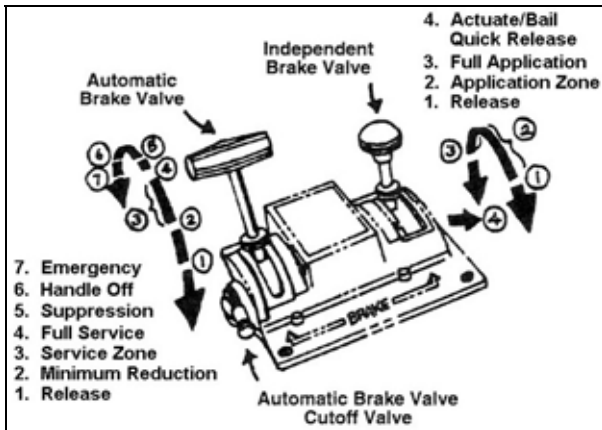

Figure 6-2. 30A-CDW Brake Valve Assembly
**Rule 6-5. 30A-CDW BRAKE VALVE.** This brake valve assembly (see Figure 6-2) is found on locomotive units having the *North American Cab* desk top control console. The automatic brake valve is located on the left side of the assembly. The independent brake valve is located on the right side of the assembly.